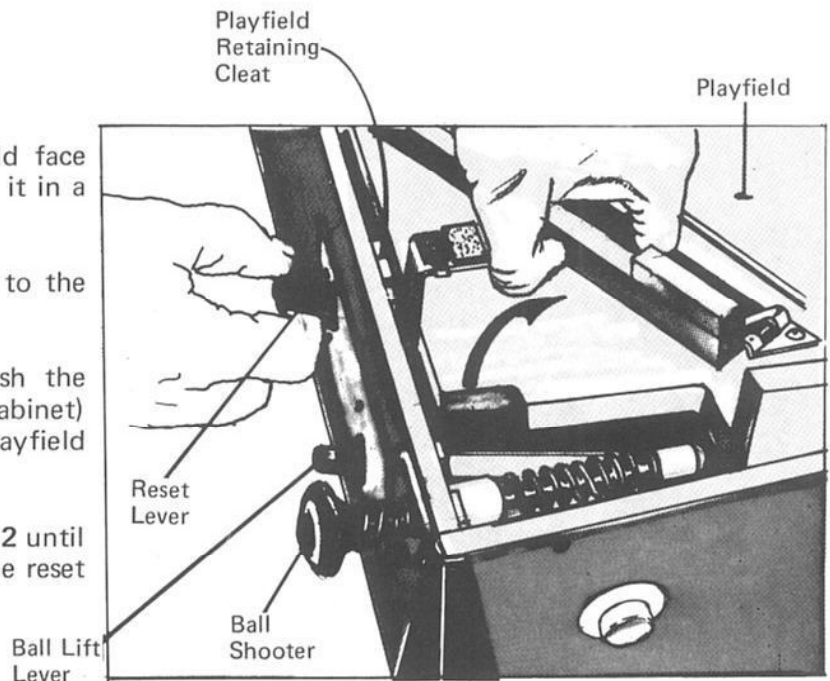

FIGURE 2
4. Lift the reset lever to prevent damage to the reset switch (**Figure 2**).
5. While holding the reset lever up, push the playfield forward (toward rear of cabinet) approximately 1/2" inch to clear the playfield of the retaining cleat. (**Figure 2**)
6. Lift the playfield up as shown in **Figure 2** until it clears the reset lever, then release the reset lever.
2. Lift the reset lever, then slide playfield toward front of lower cabinet until end of playfield is underneath the retaining cleat. (Refer to Page 6, Figure 2)